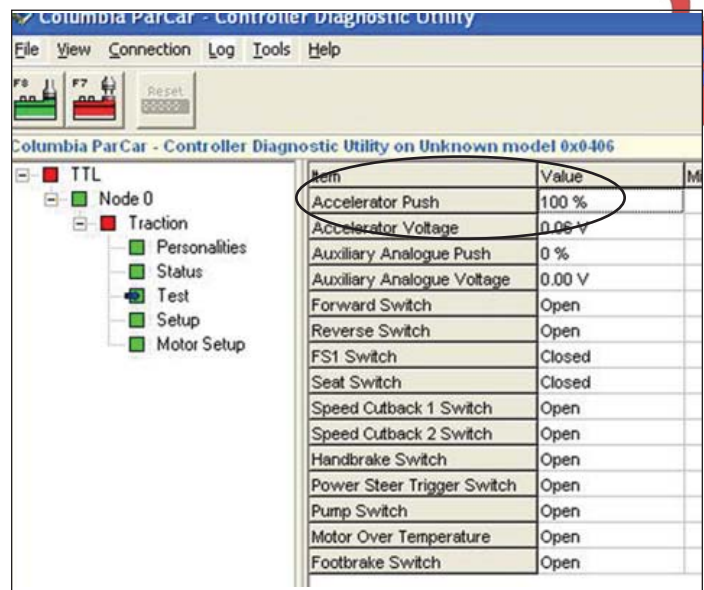

Figure 4-3. Accelerator Push Test
2. With the Forward / Reverse switch set to Neutral, slowly press the accelerator pedal. The “Accelerator Push” value should rise in value from 0-100% smoothly as you press the pedal (Figure 4-3). If the value does not change, the controller is not receiving input from the accelerator control device (potentiometer or linear accelerator device). Check all cable and wire connections regarding the accelerator control device. If the value does rise, but not to 100%, adjust the accelerator cable that attaches to the accelerator device.